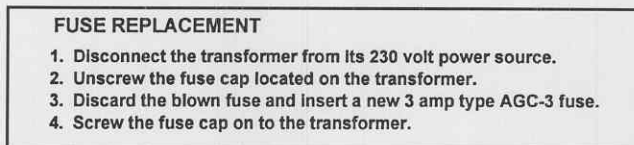

Figure 1-8. Transformer fuse decal.
(6) A decal (located on the rear of the upright assembly) providing information about the transformer fuse is depicted in figure 1-8.